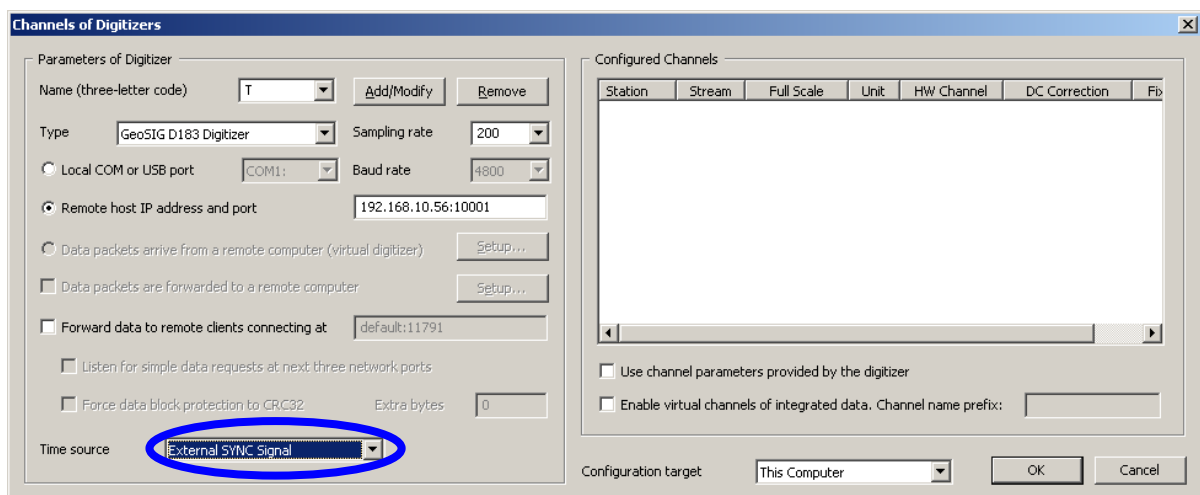

Figure 34. Set ‘External SYNC Signal’ as Time source
- While adding the CR-5P under “Channels of Digitizers”, make sure ‘External SYNC Signal’ is selected as Time source, as shown in Figure 34.